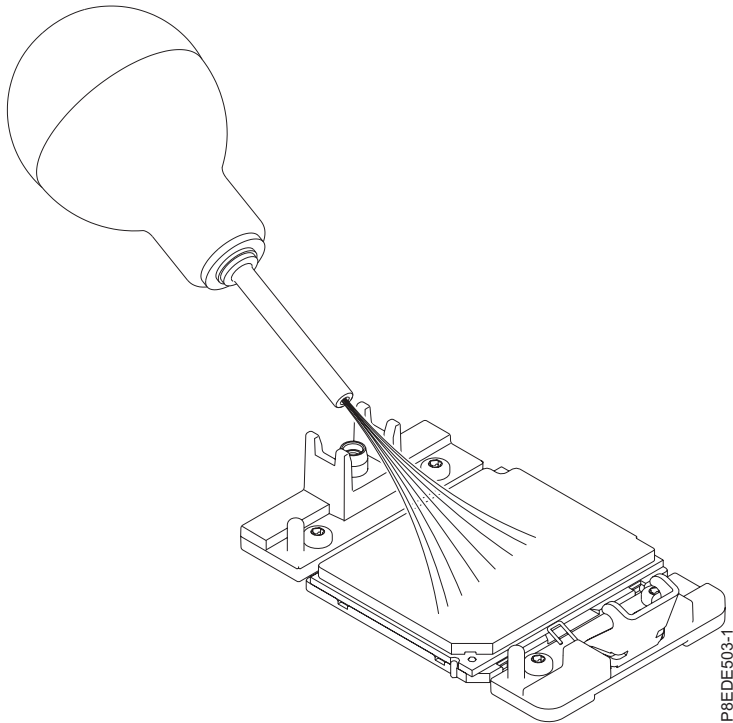

Figure 5. Removing dust and debris from the system processor module area
- a. If dust or debris is present, use the supplied air pump (part number 45D2645) to clean the system processor module area. If your air pump is not assembled as shown in Figure 5 on page 7, fasten the tip onto the bulb. Blow small bursts of air from the center toward the sides of the system processor module as shown in Figure 5 on page 7.